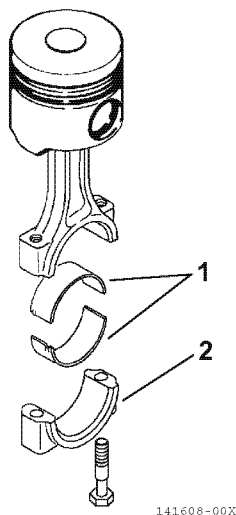

Figure 6-104
4. Reinstall the bearing inserts (1, **Figure 6-104**) in the connecting rod and cap.
6. Apply a light coat of clean engine oil to the rod cap bolts. Reinstall the connecting rod cap (2, **Figure 6-104**). Tighten the connecting rod bolts to the specified torque in two stages (1/2 then full torque). See *Special Torque Chart on page 6-15 for specifications*.